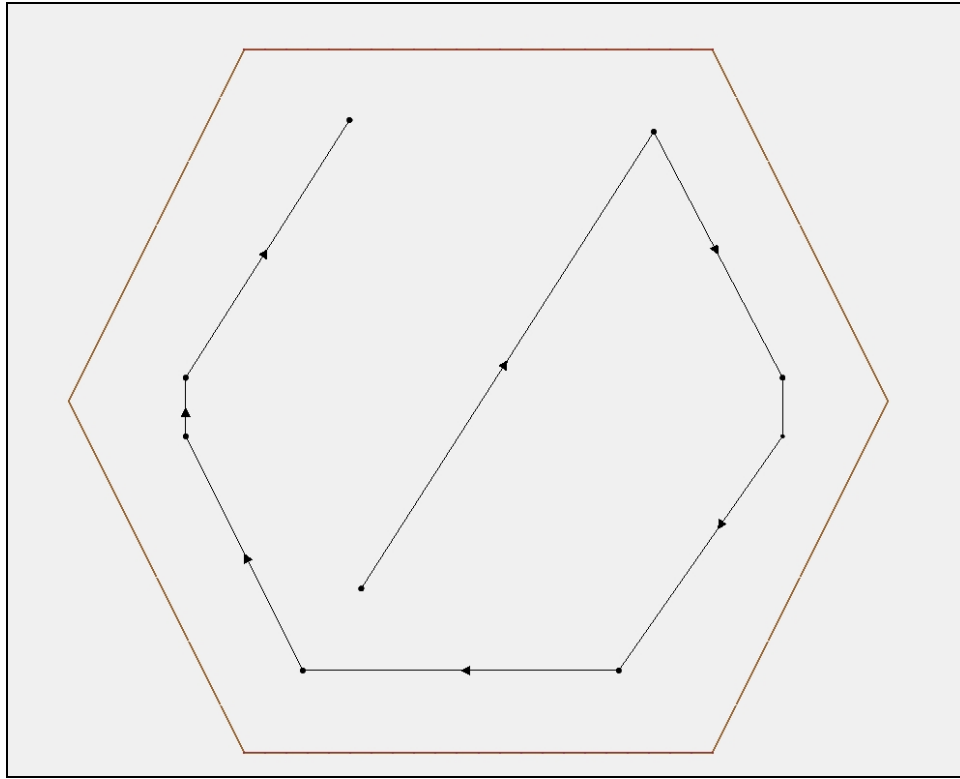

Figure 4 Full boat path
1. Using the *Create Feature Arc* tool, add additional segments to the arc. You can also select vertices and right-click on them and select "Convert to node". Nodes are able to change the speed of the boat at that location. Vertices simply interpolate their speed based on the nodes before and after them. The following Table 1 shows a list of points and their attributes. It might be easiest to create all of the points as stand alone points using the edit fields at the top of the dialog, connect them as arcs and then convert the appropriate nodes to vertices. When you are finished the boat path should look like Figure 4.